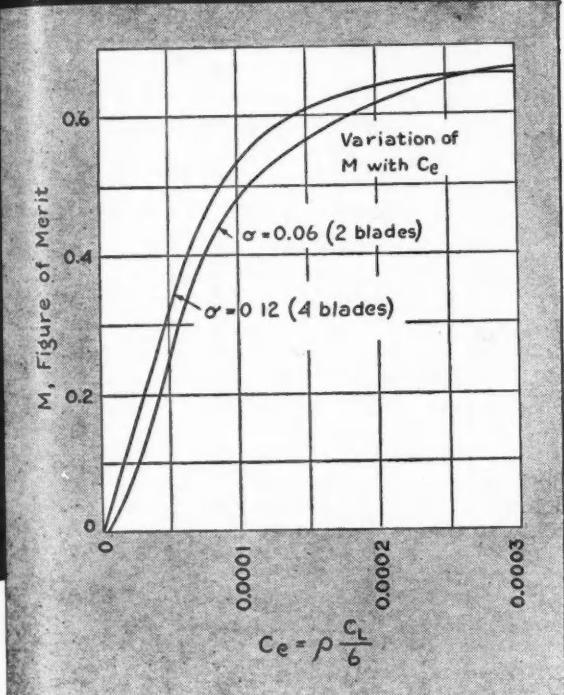

Fig. 1—Variation of Figure of Merit, M, with Coefficient of Lift, C_L .
Fig. 1 shows a plot of the figure of merit (M) vs. coefficient of lift for two helicopter rotors in fixed sustentation. When sufficient data are available from model and full-scale flight tests, in the form shown on Fig. 1, the static lift of helicopters may be accurately determined. Likewise, the effects of blade twist, plan form, chordwise center of gravity and airfoil characteristics can be accurately compared provided tests are conducted at, or corrected to, the same Reynolds number.